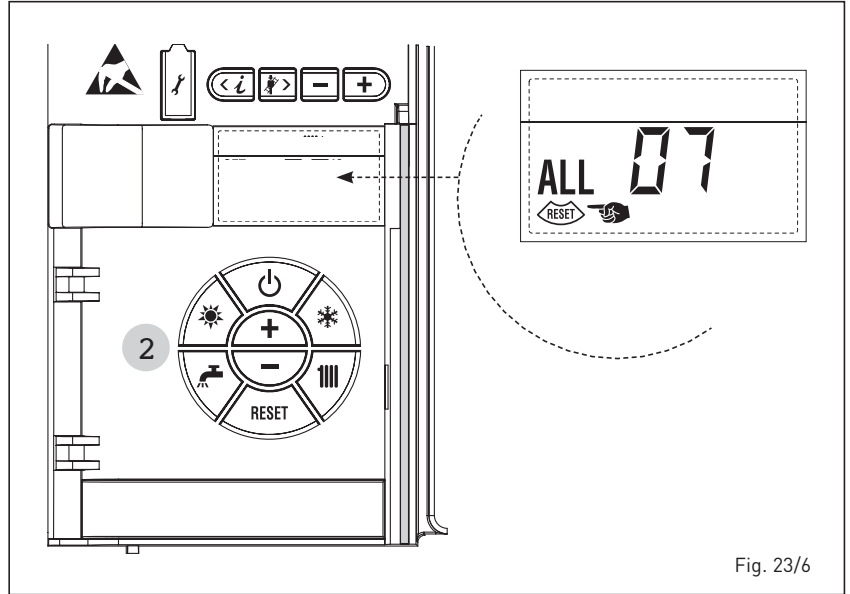

Fig. 23/6
- **PARASITE FLAME ERROR ALARM 08 (fig. 23/7)**